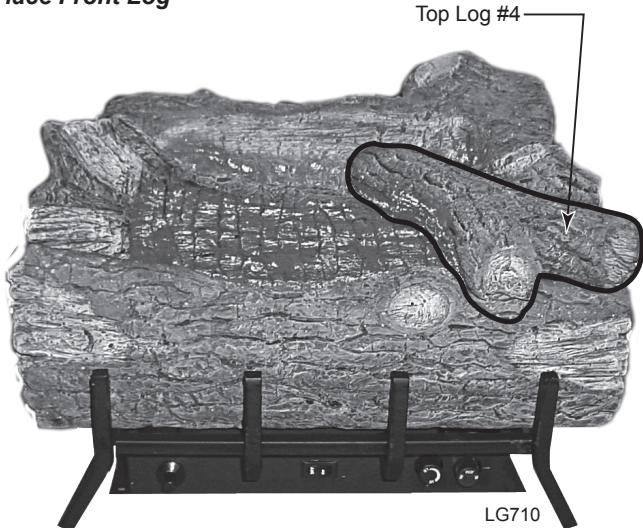

Figure 22 -
4. Rest Top Log (#4) in front and middle log cutouts. *Figure 22*